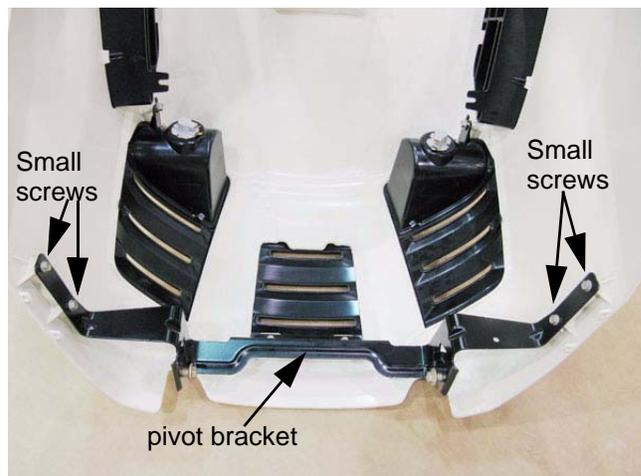

Figure 4.11
1. Remove the four screws that hold the outer arms of the pivot bracket to the hood using a 3/8" wrench. See Figure 4.11.